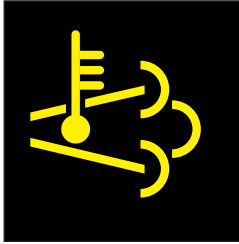
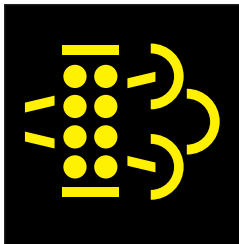

Figure 87. Exhaust Temperature High Indicator
Figure 88. Regeneration Required Indicator
This process will automatically occur every 30 minutes. Fuel will be injected into the exhaust stream to elevate the exhaust temperature. No operator action is required for this process. The Exhaust Temperature High indicator (Figure 87) will appear on both ECU-845/670 controllers.
The Regeneration Required indicator (Figure 88) will appear on the ECU-845/670 controllers indicating that Force Regeneration is required. At this point, perform the Force (Manual) Regeneration by following these steps.
- The regeneration process will start automatically, lasting for at least 30 minutes. The Exhaust Temperature High indicator (Figure 87) and Regeneration Needed Indicator (Figure 88) will appear on both ECU-845/670 controllers during the process and turns off when the regeneration process has been completed.